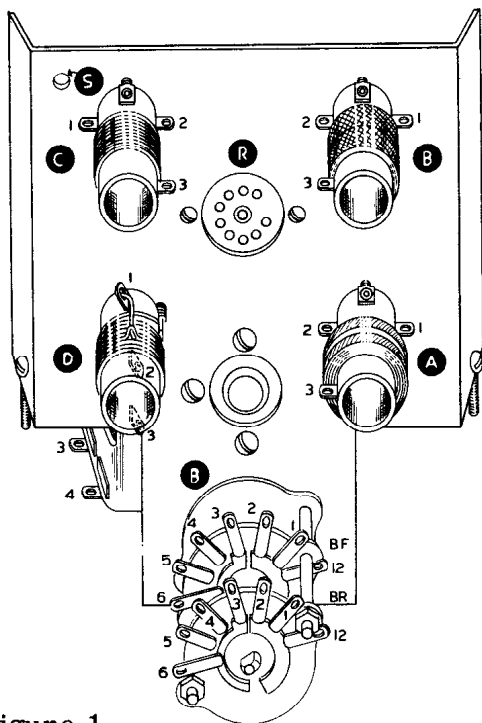
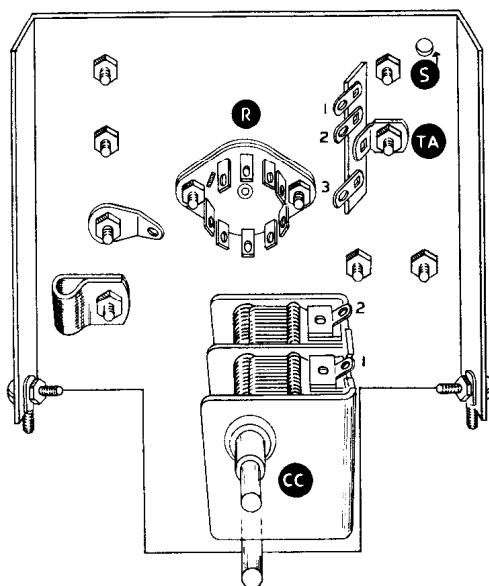
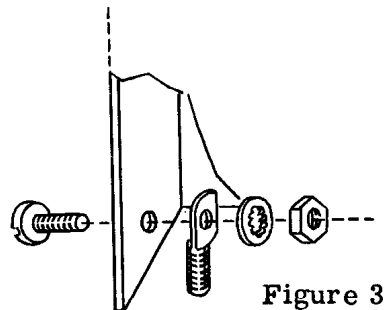

Figure 1
Figure 2
Figure 3
- () Mount two 6-32 spade bolts on the sub-chassis aprons as shown in Figure 2. Method of mounting is shown in Figure 3.
- () Mount a 9-pin miniature socket R on the sub-chassis, using 3-48 screws and nuts. Position as shown in Figures 1 and 2.
- () Mount the tuning condenser as shown in Figures 1 and 2, using 3/16 6-32 screws with lockwashers under the heads.
- () Mount the band switch B, using a control lockwasher and control nut. Omit the flat washer. Position as shown in Figure 2. See Figure 5 for method of mounting controls.
- () Referring to Figure 4 for coil identification, and Figure 1 for coil position, mount the coils A, B, C and D. Referring to Figure 2, note that coil C has a 3-lug terminal strip mounted on its lower mounting screw, and coil A has a solder lug on its upper mounting screw. Use lockwashers on all coil mounting screws except the one having the solder lug.